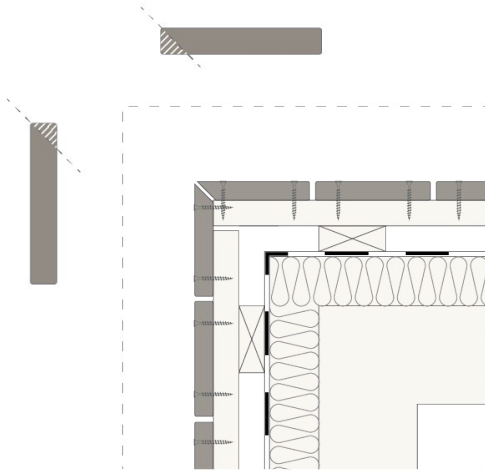

Fig. 1
- by cutting the board edges at a 45° angle (see Fig. 1)